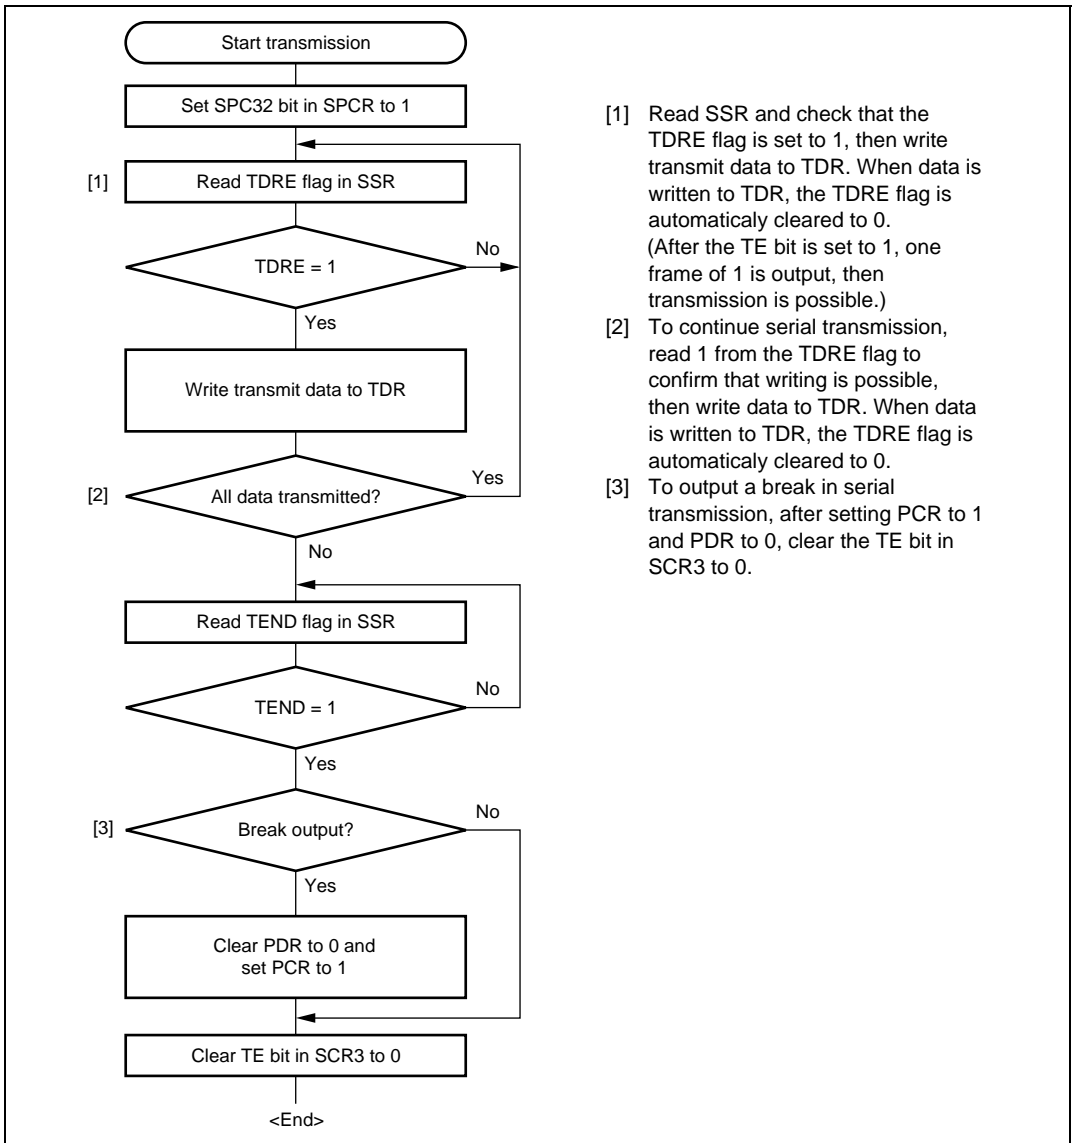

Figure 10.6 Sample Serial Transmission Flowchart (Asynchronous Mode)
6. Figure 10.6 shows a sample flowchart for transmission in asynchronous mode.